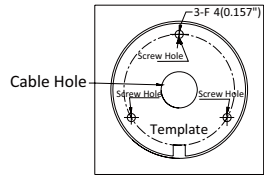

Figure 2-1 The Drill Template
1. Drill the screw holes in the ceiling according to the supplied drill template, as shown in Figure 2-1.
1. Drill the screw holes in the wall according to the supplied drill template, as shown in Figure 2-1.